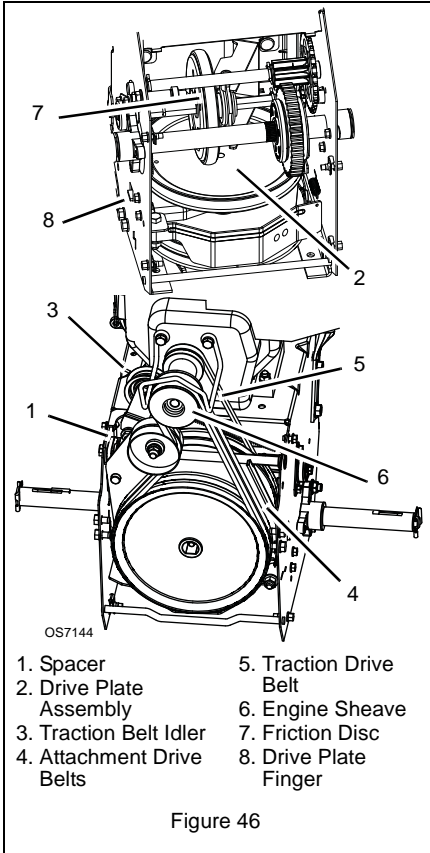

Figure 46
- To gain belt clearance, remove swing gate spacer and slide drive plate over so that finger clears stop hole in frame and can swing past it (Figure 46).